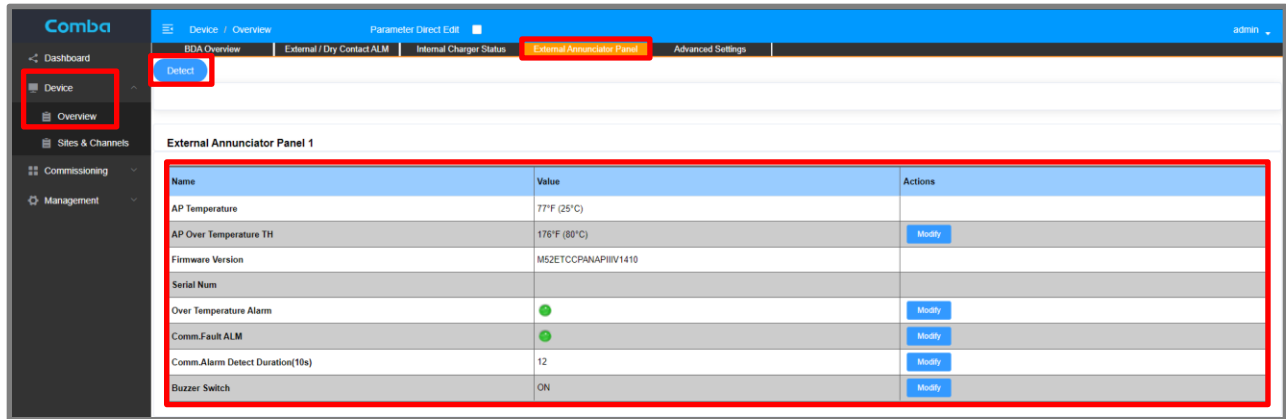

Figure 114: Commissioning V3 AP in BDA mode
- For BDA mode, navigate to Device -> Overview -> External Annunciator Panel. See Figure 114.